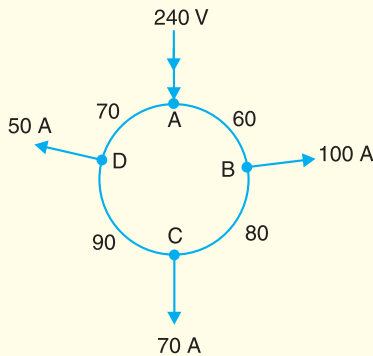

Fig. 13.45
1. A 300 m ring distributor has loads as shown in Fig. 13.45 where distances are in metres. The resistance of each conductor is 0.2 W per 1000 metres and the loads are tapped off at points B, C and D as shown. If the distributor is fed at A at 240 V, find voltages at B, C and D .